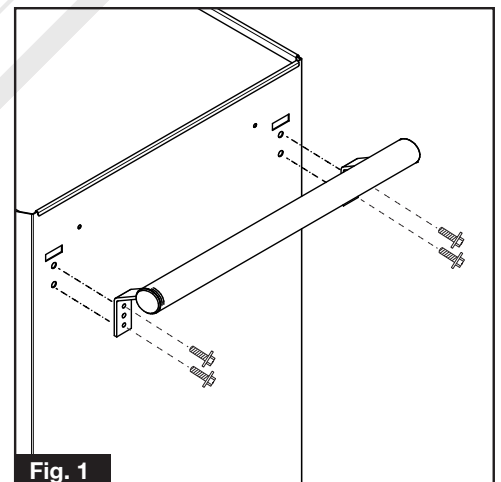

Fig. 1
- Attach with 4x M6x16mm bolts and tighten with a 10mm spanner/socket as shown in Fig. 1.